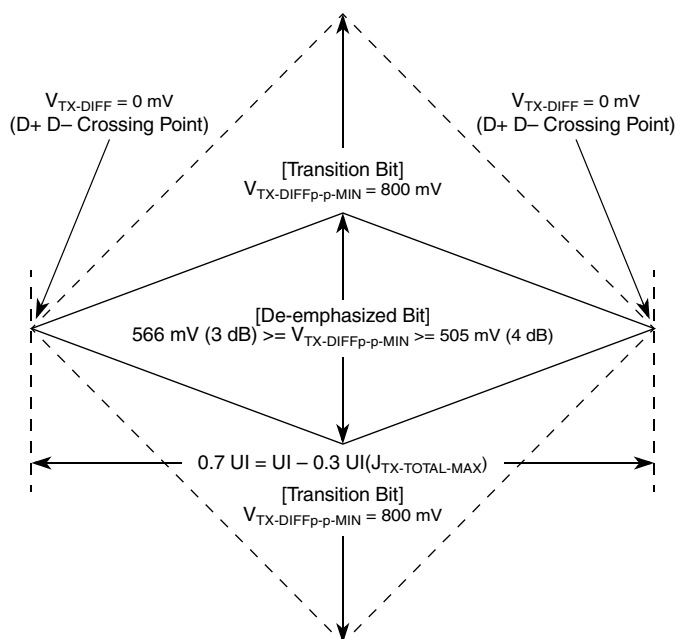
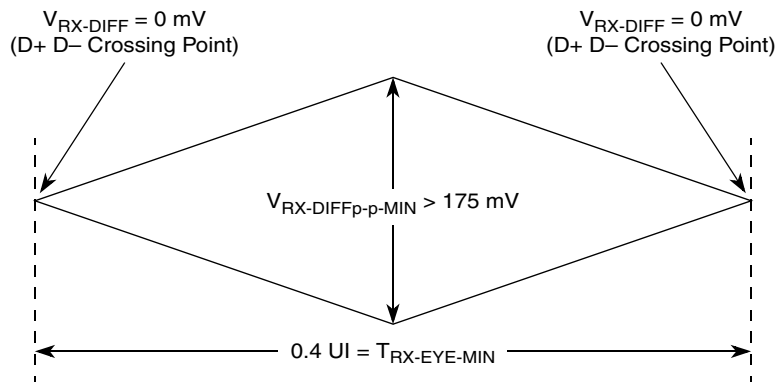
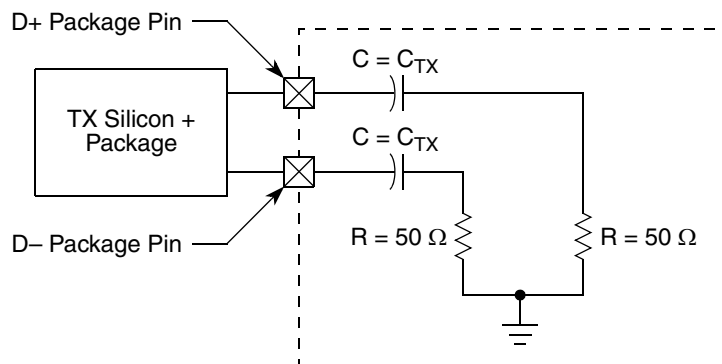

Figure 42. Minimum Transmitter Timing and Voltage Output Compliance Specifications
Figure 43. Minimum Receiver Eye Timing and Voltage Compliance Specification
Figure 44. Compliance Test/Measurement Load
- ² Specified at the measurement point into a timing and voltage compliance test load as shown in Figure 44 and measured over any 250 consecutive Tx UIs. (Also refer to the transmitter compliance eye diagram shown in Figure 42.)
- ⁴ The transmitter input impedance will result in a differential return loss greater than or equal to 12 dB and a common mode return loss greater than or equal to 6 dB over a frequency range of 50 MHz to 1.25 GHz. This input impedance requirement applies to all valid input levels. The reference impedance for return loss measurements is 50 Ω to ground for both the D+ and D– line (that is, as measured by a vector network analyzer with 50- Ω probes, see Figure 44). Note that the series capacitors, C_{TX} , is optional for the return loss measurement.
- ⁵ Measured between 20%–80% at transmitter package pins into a test load as shown in Figure 44 for both V_{TX-D+} and V_{TX-D-} .
The Tx eye diagram in Figure 42 is specified using the passive compliance/test measurement load (see Figure 44) in place of any real PCI Express interconnect + Rx component. There are two eye diagrams that must be met for the transmitter. Both diagrams must be aligned in time using the jitter median to locate the center of the eye diagram. The different eye diagrams differ in voltage depending on whether it is a
- ² Specified at the measurement point and measured over any 250 consecutive UIs. The test load in Figure 44 should be used as the Rx device when taking measurements (also refer to the receiver compliance eye diagram shown in Figure 43). If the clocks to the Rx and Tx are not derived from the same reference clock, the Tx UI recovered from 3500 consecutive UI must be used as a reference for the eye diagram.
- ⁴ The receiver input impedance will result in a differential return loss greater than or equal to 10 dB with the D+ line biased to 300 mV and the D– line biased to –300 mV and a common mode return loss greater than or equal to 6 dB (no bias required) over a frequency range of 50 MHz to 1.25 GHz. This input impedance requirement applies to all valid input levels. The reference impedance for return loss measurements for is 50 Ω to ground for both the D+ and D– line (that is, as measured by a vector network analyzer with 50- Ω probes, see Figure 44). Note that the series capacitors, C_{TX} , is optional for the return loss measurement.
The Rx eye diagram in Figure 43 is specified using the passive compliance/test measurement load (see Figure 44) in place of any real PCI Express Rx component. In general, the minimum receiver eye diagram measured with the compliance/test measurement load (see Figure 44) is larger than the minimum receiver eye diagram measured over a range of systems at the input receiver of any real PCI Express component. The degraded eye diagram at the input receiver is due to traces internal to the package as well as silicon
parasitic characteristics that cause the real PCI Express component to vary in impedance from the compliance/test measurement load. The input receiver eye diagram is implementation specific and is not specified. Rx component designer should provide additional margin to adequately compensate for the degraded minimum receiver eye diagram (shown in Figure 43) expected at the input receiver based on an adequate combination of system simulations and the return loss measured looking into the Rx package and silicon. The Rx eye diagram must be aligned in time using the jitter median to locate the center of the eye diagram.
The reference impedance for return loss measurements is 50 Ω to ground for both the D+ and D– line (that is, as measured by a Vector Network Analyzer with 50 Ω probes—see Figure 44). Note that the series capacitors, C_{PEACCTX}, are optional for the return loss measurement.
The AC timing and voltage parameters must be verified at the measurement point, as specified within 0.2 inches of the package pins, into a test/measurement load shown in Figure 44.